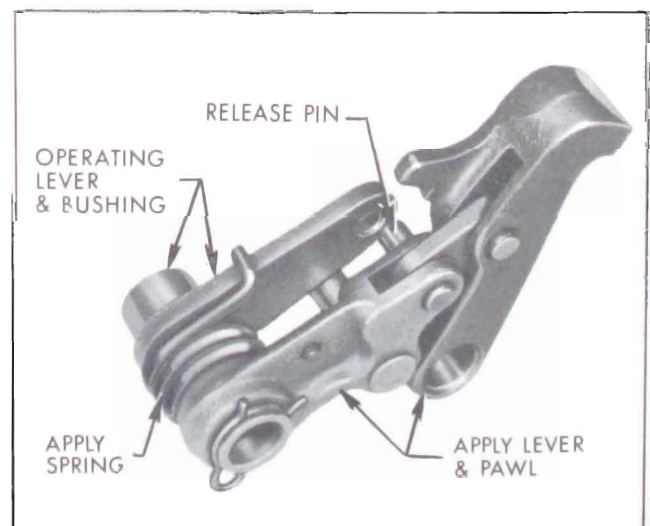

Figure 5-97—Parking Lock Lever and Pawl Assembly
7. Examine pawl, lever and spring. If damaged or excessively worn, disassemble by removing hairpin retainer and replace parts as necessary. See Figure 5-97.